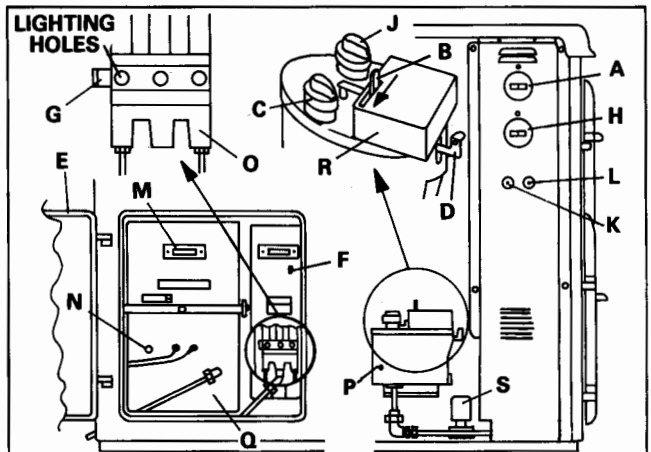

Fig. 15
Checking the Cooker Burner Oil Level – Fig. 15
- Turn cooker control knob **C** to **OFF**, disconnect the copper pipe connection at the burner base and withdraw. Draw off the oil in the cooker burner base. See Fig. 15. Alternatively, the oil can be sucked out using an aspirator.
Lighting the Boiler Burner – See Fig. 15
Lighting the Cooker Burner – See Fig. 15
Cooker Burner – See Fig. 15
Boiler Burner – See Fig. 15